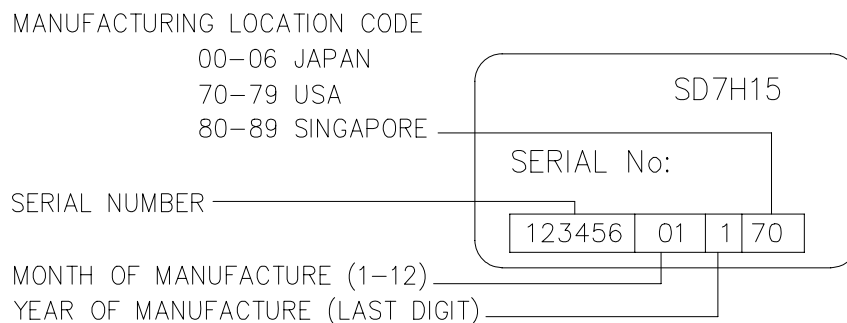

Figure 9 Identification Label
27. An identification label example is shown at Figure 9.